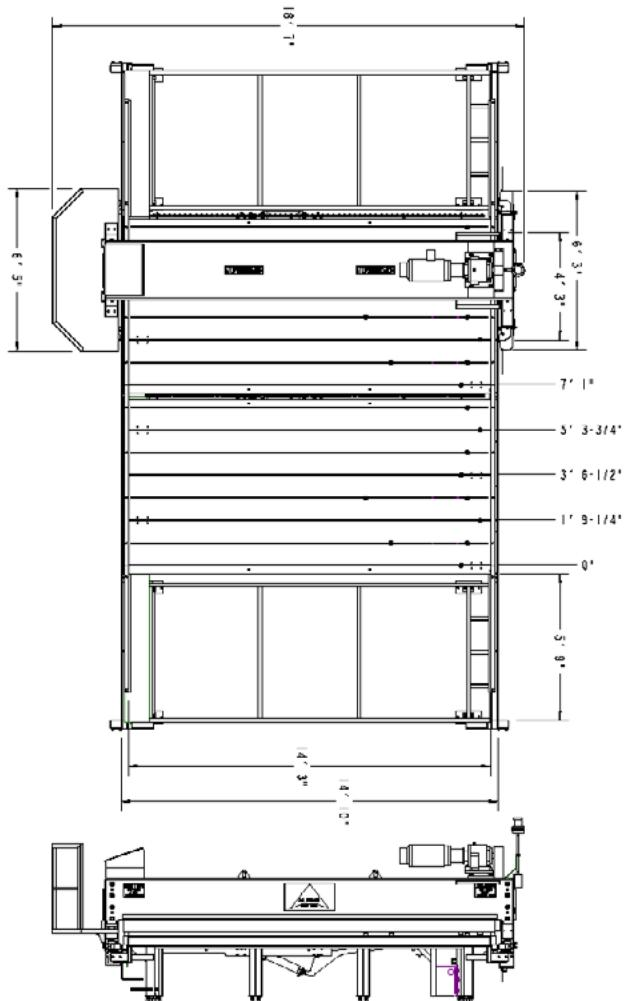

Figure 1
1.2.1. Equipment Specifications (Figure 1)
Option 1: (Figure 1)